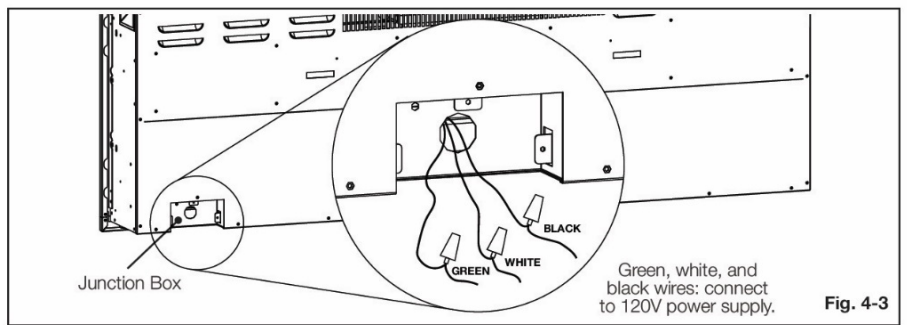

Fig. 4-3
There are 3 wires from the appliance junction box (Fig. 4-3): white (neutral), black (power L1), and green (ground) that are connected to 120V power source (circuit breaker panel).
- Using the previously removed wire nuts, connect the green wire (G) to the supply ground wire, the white wire (N) to the supply Neutral wire, and the black wire (L) to the supply L1 wire (Fig. 4-3).